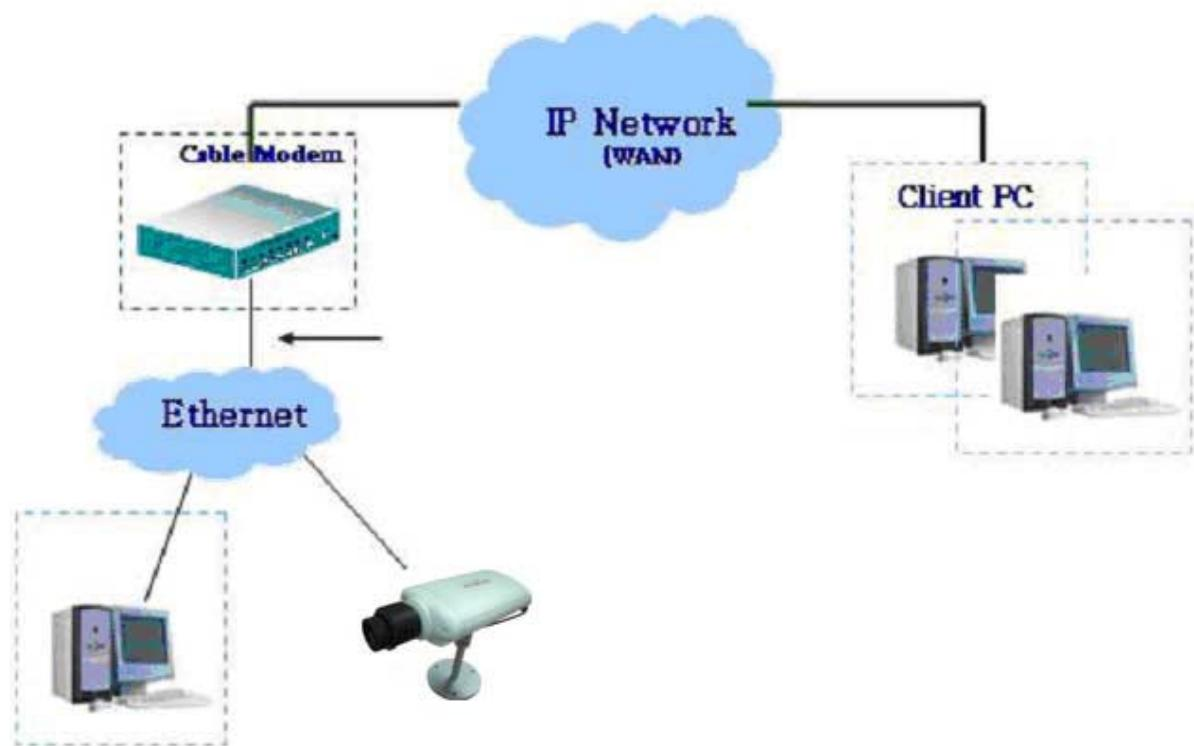

Figure 3-5. Connecting the NVC100/110 to a Cable Modem
3. Remove the crossover cable and connect the NVC100/110 to the network using a regular LAN cable as shown in Figure 3-5. Check to see if you can receive video data when connecting to the NVC100/110 using the viewer program.